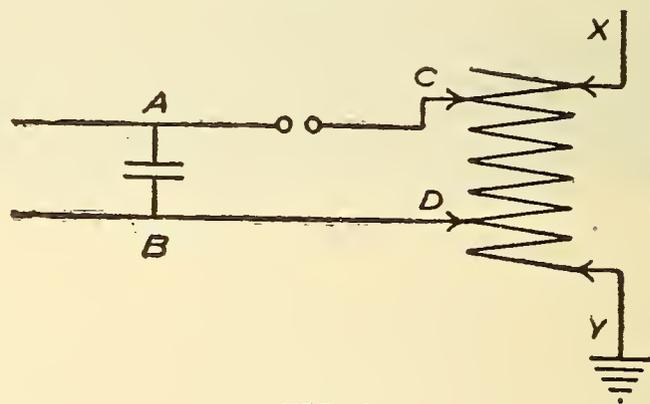

FIG. 1
denser bus-bar constructed of $\frac{1}{2}$ inch brass tubing. This condenser will be known here as "A," and the hook-up used is shown in Fig. 1.
General Electric hot-wire ammeter, using the condenser A only. That is, in Fig. 1, the open circuit (XY) was adjusted by means of a movable clip fastened to the aerial lead and indicated in the figure by an arrow until the natural frequency of the circuit (XY) was the same as that of the closed or oscillating circuit (ABCD). This is termed resonance, and it is under such conditions that the condenser circuit will induce currents of greatest value upon the radiating circuit (XY).